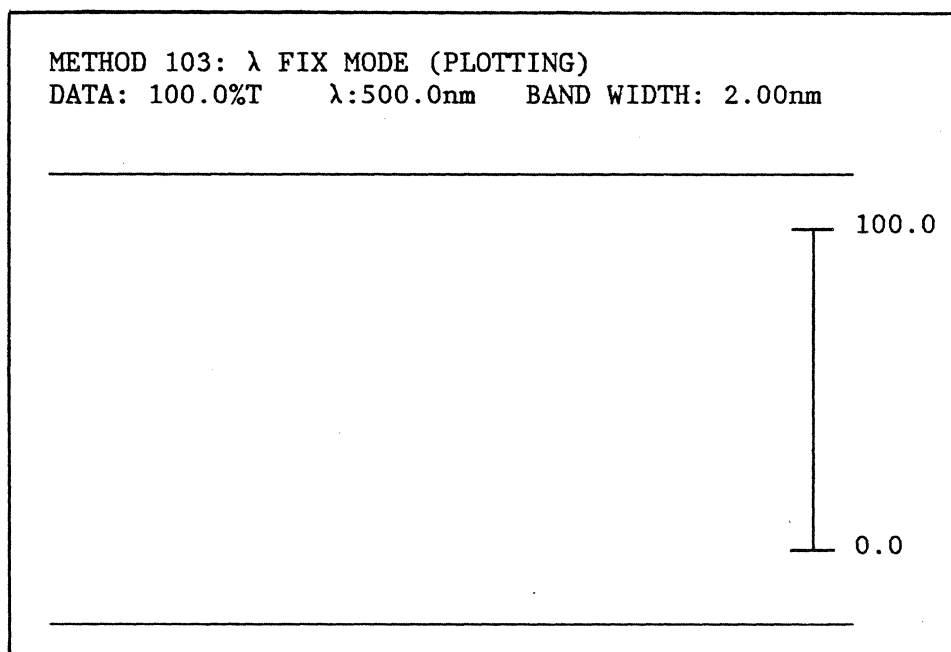

Figure 4-1. Method 103 Display
1. Press the `Method`, `1`, `0`, `3`, and Enter keys to enter the method. The CRT will display the measurement axis as shown in Figure 4-1.